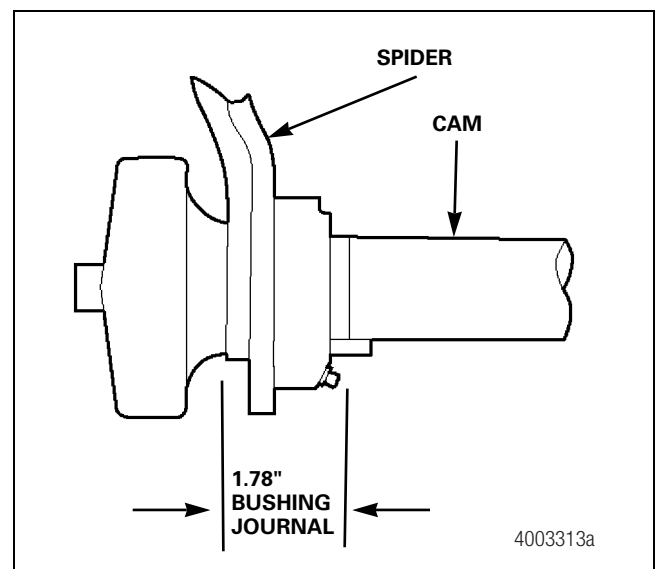

Figure 11.12
- Cams with non-heat-treated journals are used with plastic sleeve bushings. Figure 11.12.